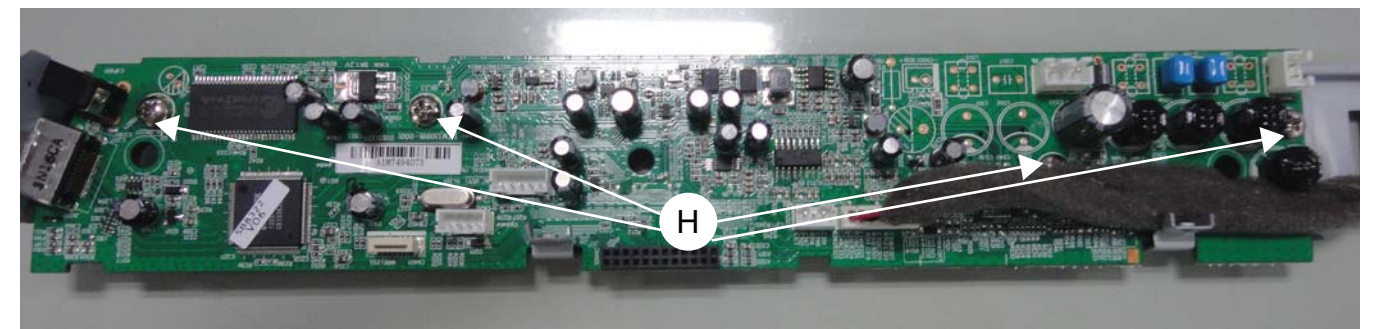

Figure 8
- 1) Loosen 4 screws "H" on the top of Main Board as shown in figure 8.